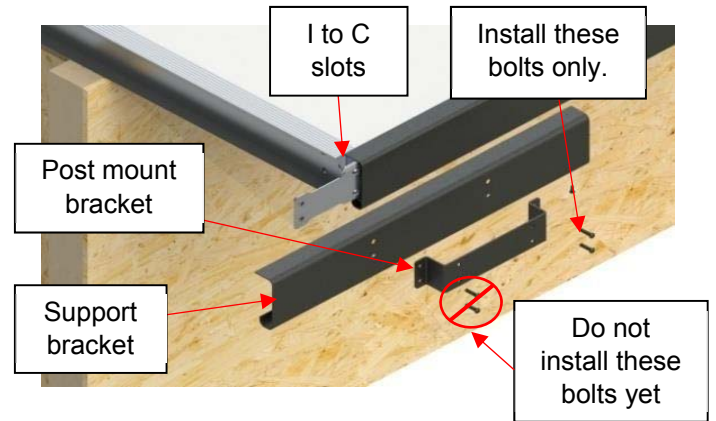

Figure 15
13) Align the holes of the support bracket, the post mount bracket and the C-channel by hand. Assemble them with the 1/4-20 x 1" hex drive rounded head screws (5/32" [4 mm]) (5 ft-lb torque). **DO NOT** install the bolts on the other end of the brackets yet (Figure 15).
- ♦ Make sure the I-beam is still free to move in the I to C slots (figure 15).